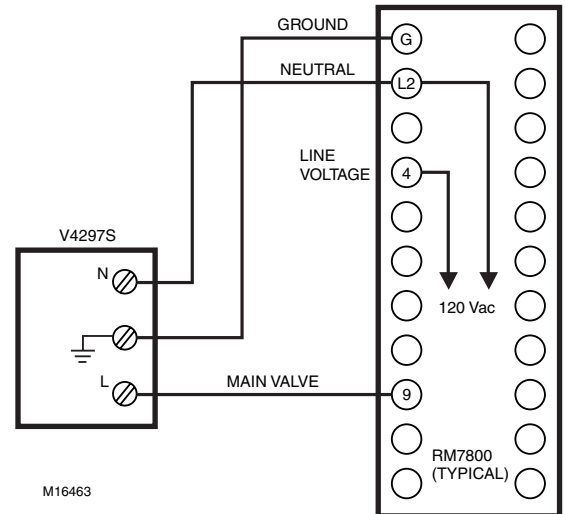

Fig. 5. Typical wiring diagram for V4297 NOVV.
3. See Fig. 5 for typical V4297S field wiring with the RM7800 Relay Module. Follow the burner manufacturer wiring diagram, when provided. Refer to the relay module wiring diagram for specific wiring terminal designations.